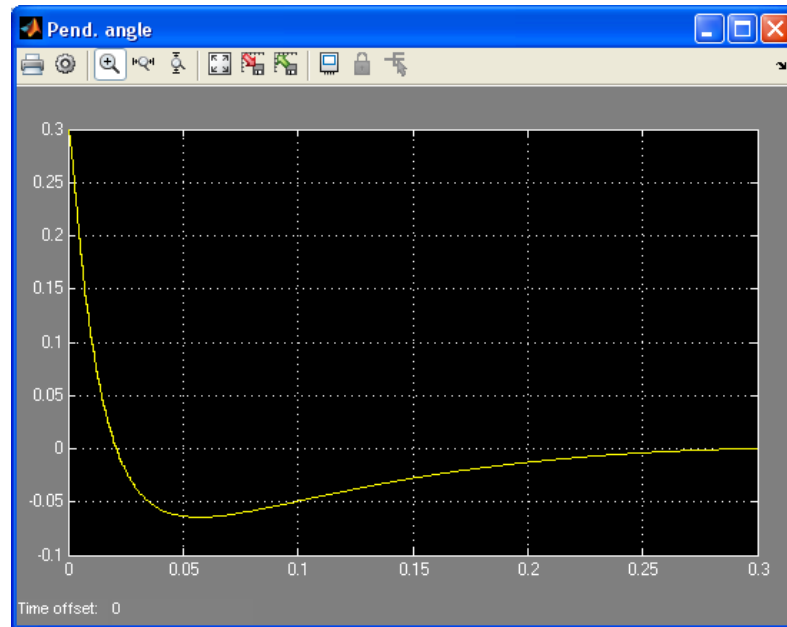
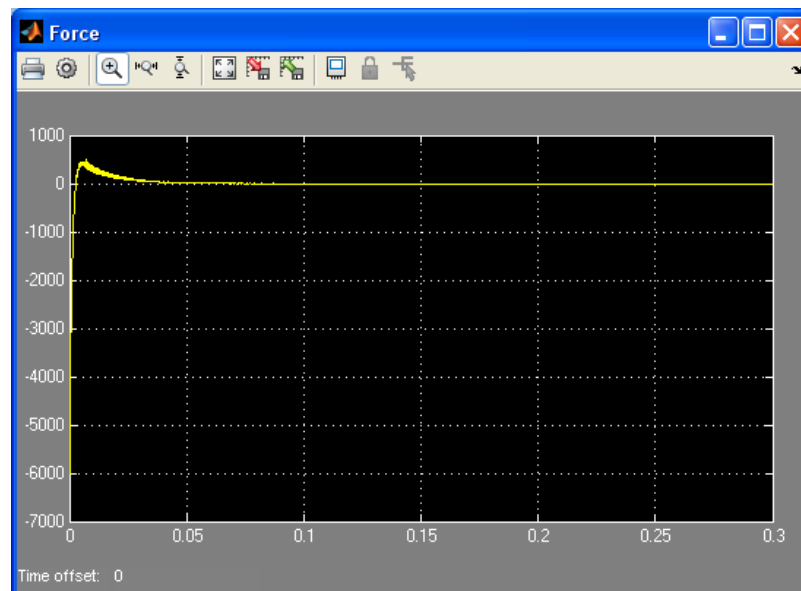

Figure 4.5. Angle of deviation of pendulum from the vertical position
Figure 4.6. Control force
3. When simulation stops you can see angle of rotation of the pendulum and the control force like in Figure 4.5 and Figure 4.6.